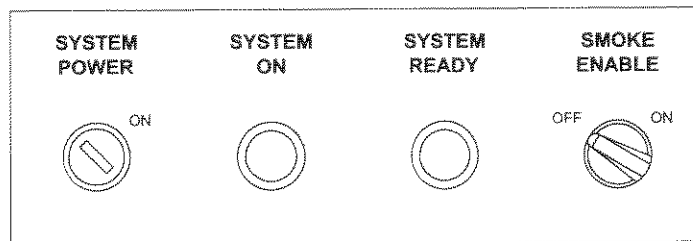

Figure 3-15 I/O Rack Enclosure Front Panel
1. Power the system on by turning the SYSTEM POWER key switch to the ON position. The SYSTEM ON light comes on (See Figure 3-15).
2. If fire training scenario requires smoke, turn the SMOKE ENABLE switch to the ON position (See Figure 3-15).